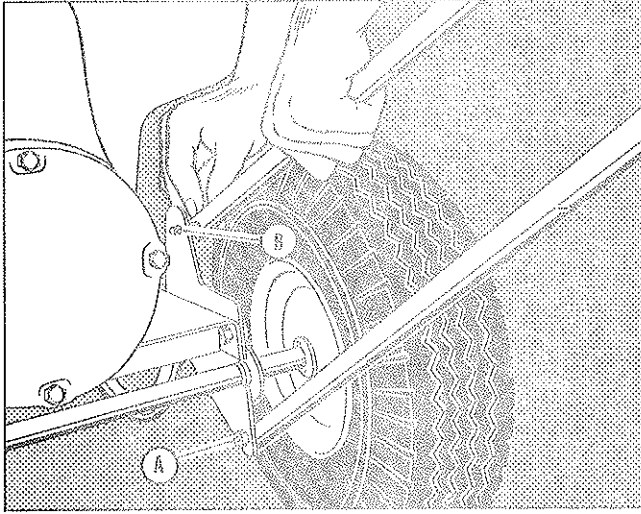
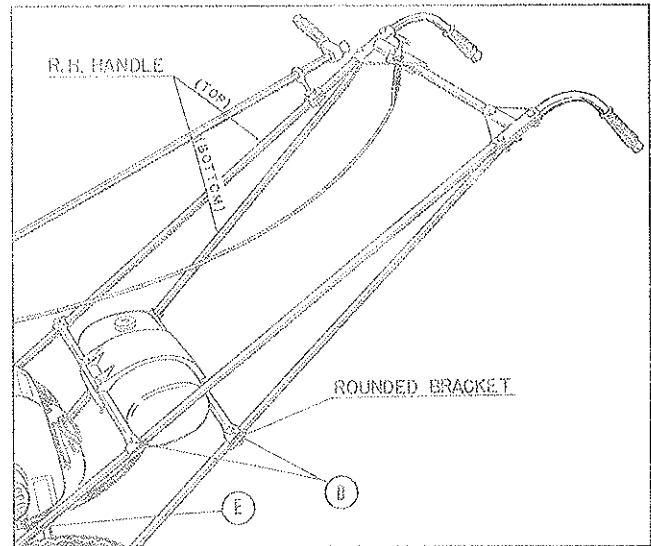

Fig. 1
Fig. 3
2. Assemble bottom half of R.H. handle (see Fig. 3) at Point A, Fig. 1, using bolt and nut provided. Be sure round steel plug is in place in end of tube.
6. Assemble gas tank at Points D, Fig. 3, on both sides of machine and tighten nuts. Be sure the four rounded brackets are assembled underneath handles.
7. Connect gas line to engine at Point E, Fig. 3, and hold with spring clamp.